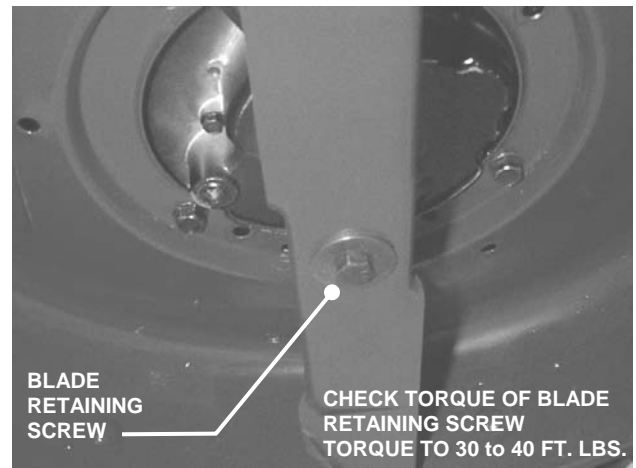

FIGURE 3.2
2. Tilt mower up on its rear wheels for access to the blade cap screw. Do not tilt mower with spark plug or carburetor down. See Figure 3.2.
3. Check torque of blade retaining cap screw. Recommended torque should be 30 to 40 ft. lbs. of torque. See Figure 3.2.
6. Reinstall blade. See Figure 3.2. Check torque of blade retaining cap screw. Recommended torque should be 30 to 40 ft. lbs.